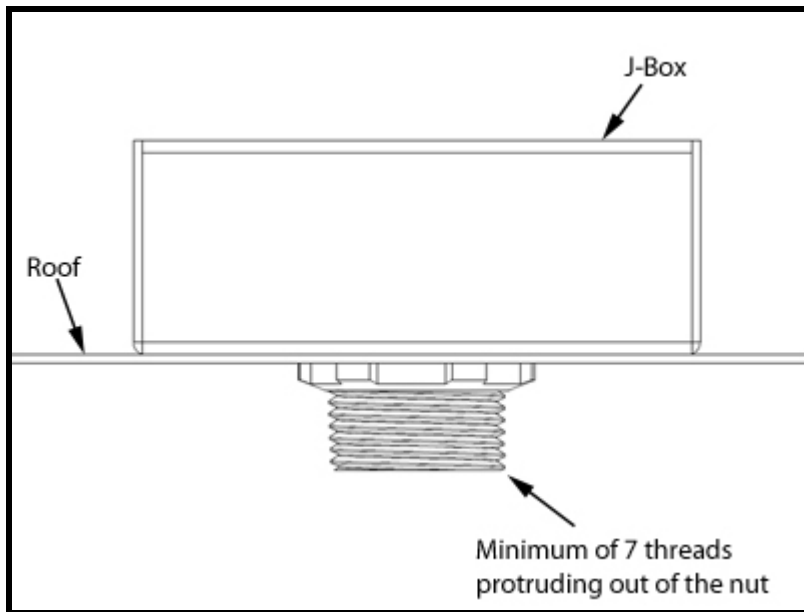
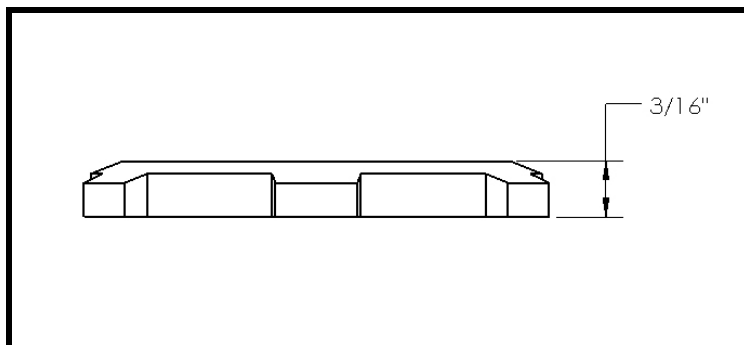

Figure 2 - J-Box Installation
Figure 3 - Nut Height
1. Install the J-Box with a minimum of 7 threads protruding out from the Jam Nut. See **Figure 2**. The nuts must be standard size 1" NPT (~3/16" tall). See **Figure 3**.